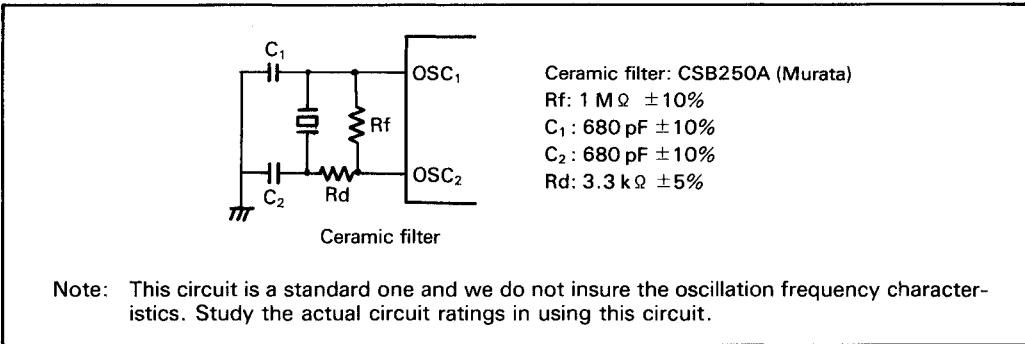

Figure 46. Internal Oscillator, Ceramic Filter
11. Relation between operation frequency and current consumption is shown in figure 46.